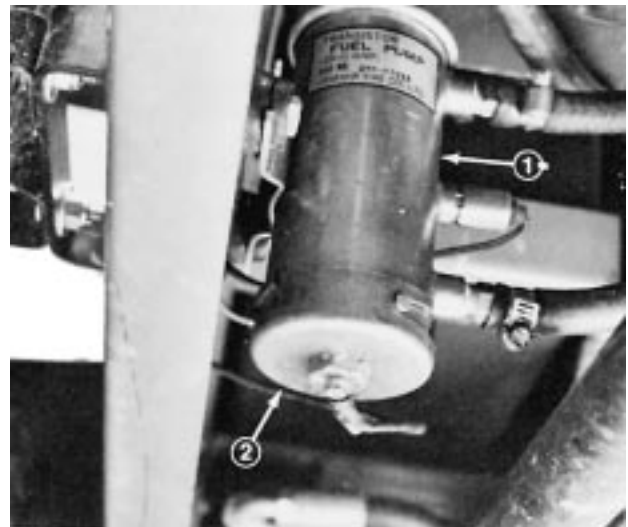

Figure 33
1. Fuel pump is located on inner frame on alternator side of engine (Fig. 33).